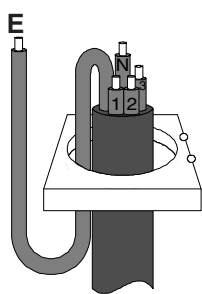

Fig. 1
1. Always ensure the Earth conductor DOES NOT pass through the toroid. If this is unavoidable, the Earth must be routed back through the toroid again and around, as shown in Fig.1.